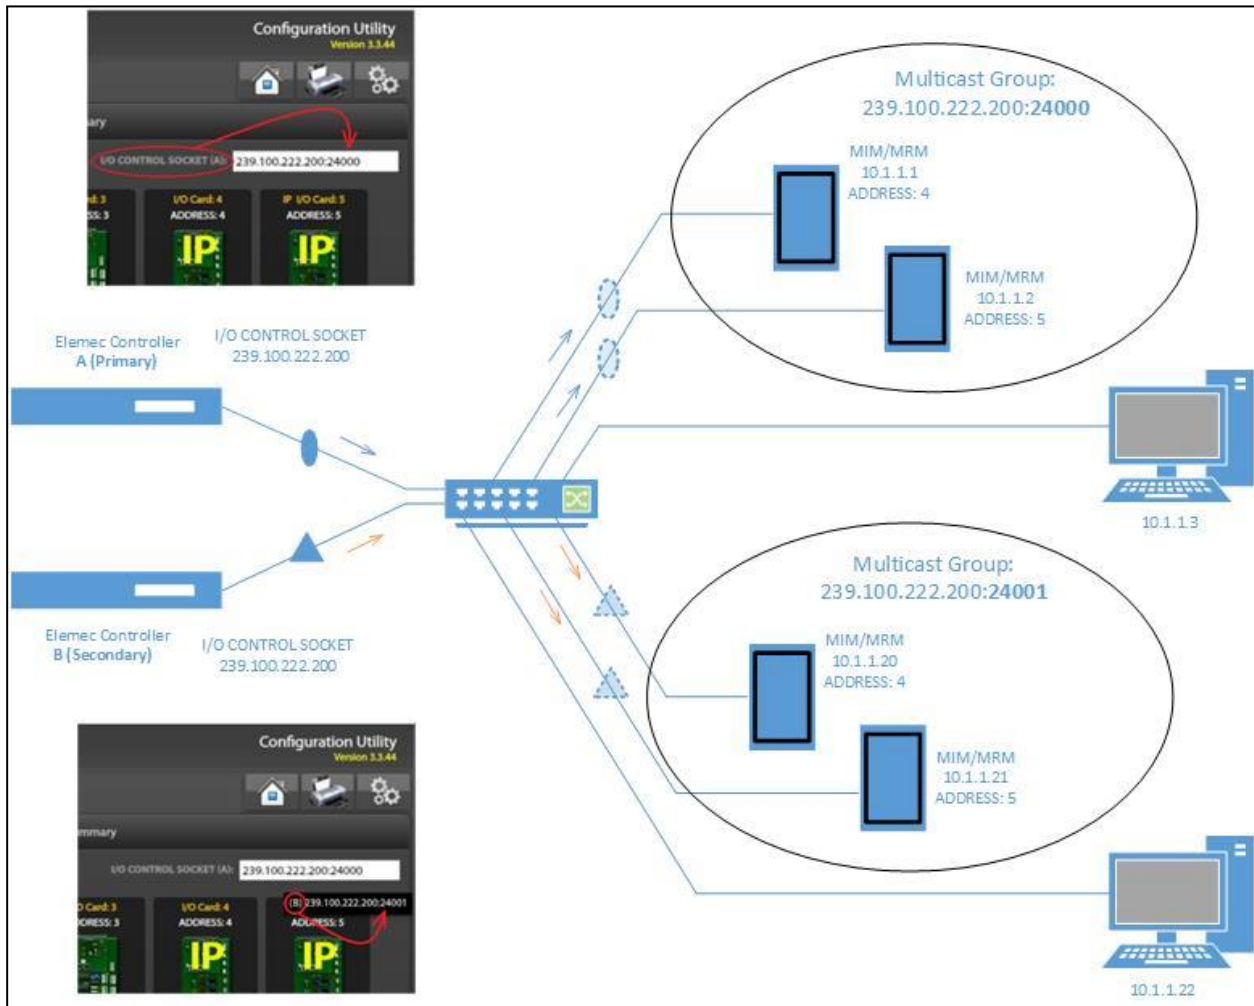

Figure 28. Multicast Socket Parameters
3. Change the *Elemec3* I/O CONTROL SOCKET (Multicast Group address & port number). This is dependent upon the *Elemec3* system type (Standalone or Redundant) (see Figure 28).